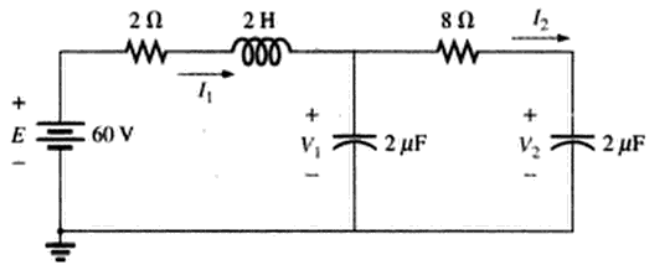

FIG. 11.109
44. Find the steady-state currents and voltages for the network in Fig. 11.109.